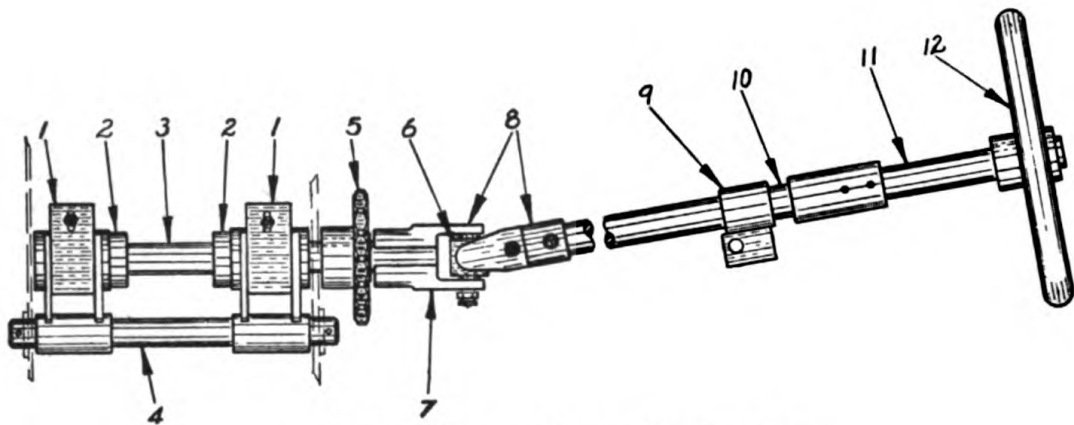

Figure 16. Handwheel hoist assembly.
This group is in two separate halves. First, or female half, is a bronze bushed hub with two sprockets (18) (18A). The female half of the cone clutch is assembled on the far end of the hub. This half is free on the jackshaft. A chain runs from the first sprocket up to the sprocket on the handwheel control shaft (3) figure 16. The second chain transmits the power down to the hoist unit.
The power hoist function is to raise or lower the conveyor. It is power operated for raising and lowering. It may also be lowered by hand. See Fig. 16.